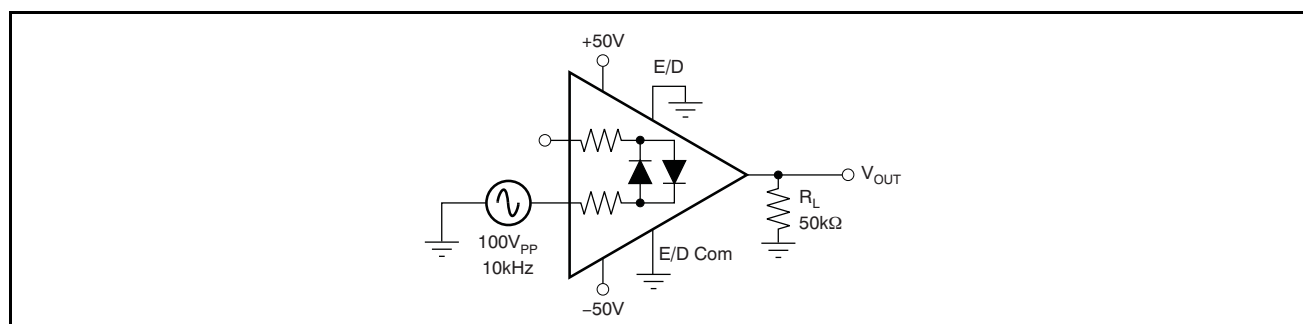

Figure 1. Feedthrough Capacitance Circuit
(11) Measured using Figure 1.
(12) 100k Ω pull-up resistor to (V+). E/D common to (V–). Status flag indicates an over temperature or over-current condition.
(13) See Typical Characteristic curves for current limit behavior.